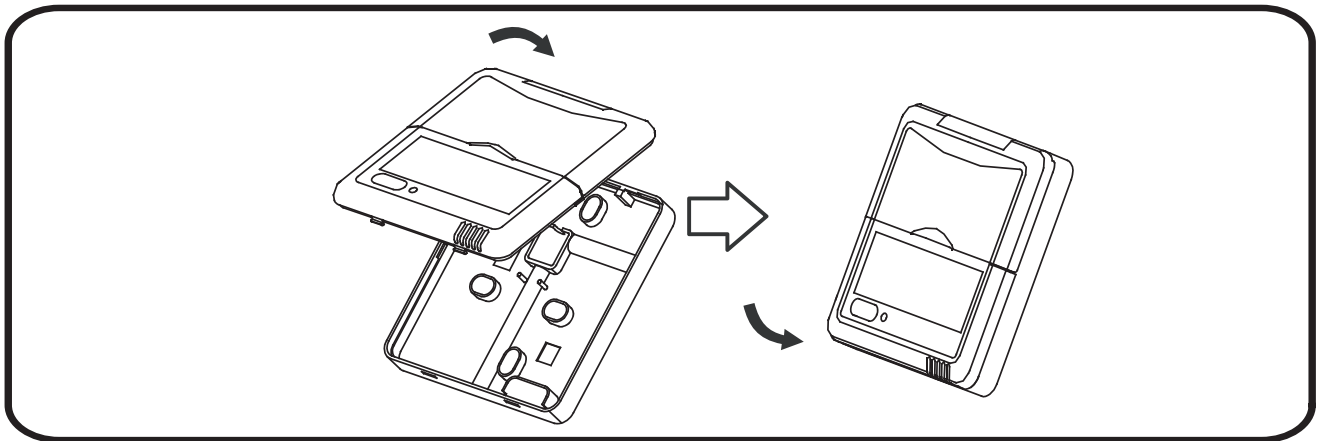

Figure 4. Reattach cover to wall plate
5. Reattach the cover to the wallplate. See figure 4.